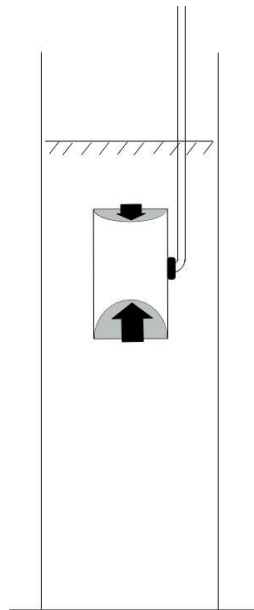

Fig.3
3. Rotate the head of the water pressure indicator to a vertical position and sink it into the water tank. Then, the rubber films dent. Record the phenomenon of the rubber film at this depth (see Fig.3).